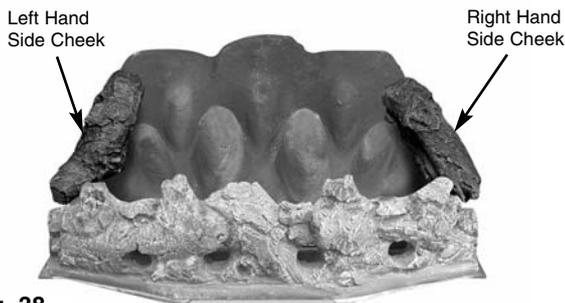

Fig. 38
3. Following Figs. 38 to 46, place the loose logs on to the fuel bed. It is important that the logs 'nest' together and sit on top of the fuel bed peaks.